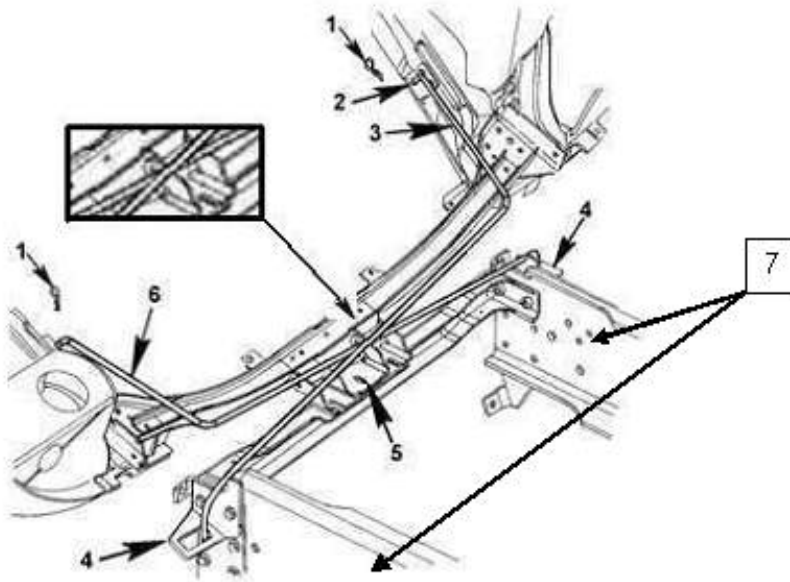

Figure 17 Tilt Assist Assembly
Refer to Figure 17 for items in parentheses.
11. With an assistant, remove the hood assembly (Figure 17). Place the hood on an appropriate padded surface to protect painted surfaces.
Refer to Figure 17 for Items in parentheses.